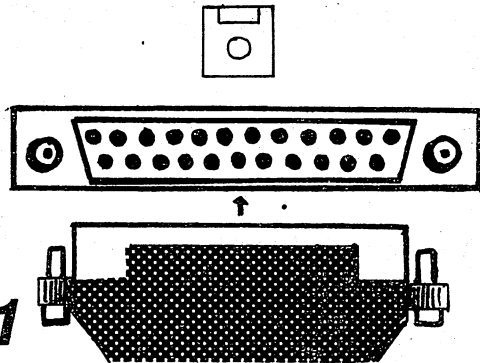

Figure 1
Step 3: Plug the end of the drive cable into your Amiga's drive interface connector. See figure 1 below for an example.